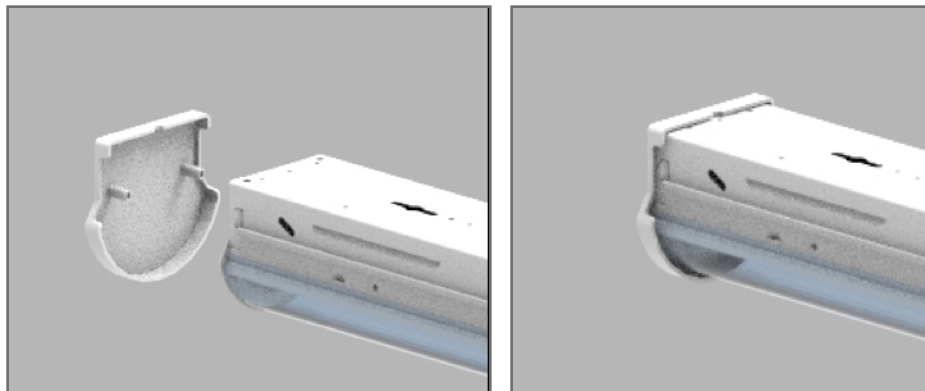

FIGURE 27
2. Snap the Injection Molded ABS Endcap ("I" in Figure 2) into place over the metal end caps as shown in Figure 27.